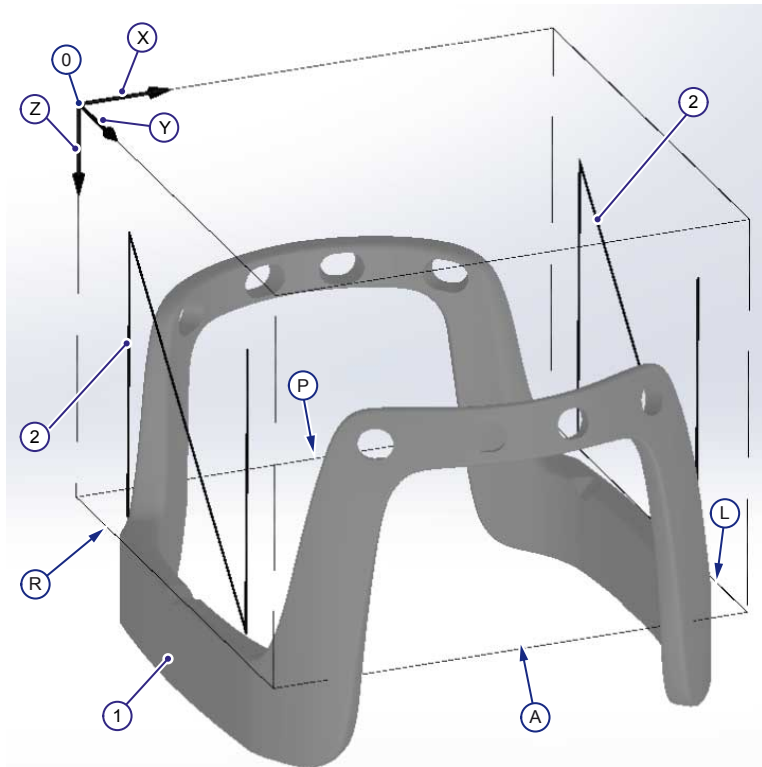
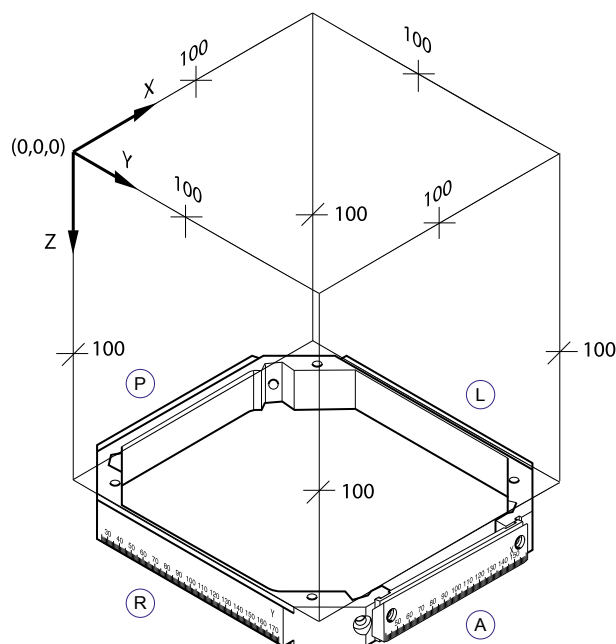

Figure 3.24 The coordinate system applied on Leksell® Vantage™ Head Frame
Figure 3.25 The coordinate system applied on the Leksell® Coordinate Frame G
The following figures show the Leksell® Coordinate System applied on the Leksell® Vantage™ Head Frame (see Figure 3.24), and the Leksell® Coordinate Frame G (see Figure 3.25). The figures also show the left (L), right (R), posterior (P), and anterior (A) side of each type of frame.